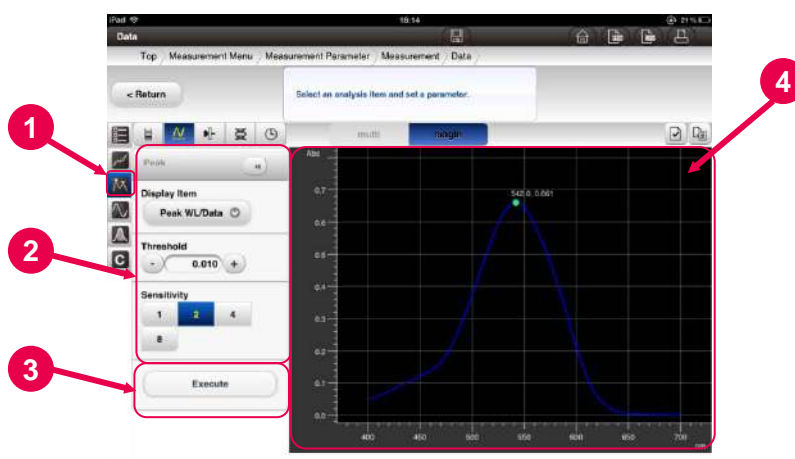

Fig. 5-50 Peak Detection Setting Parameters Window
- (1) To change the peak detection settings, press the [Peak Detection Tool Icon] button .
- (2) The statistical calculation setting parameters (Fig. 5-50) are displayed. See 4.2.4 “Measuring Spectra” for the peak detection setting parameters.
- (3) Set up the items and press the [Execute] button.
- (4) The results of the data processing are displayed.